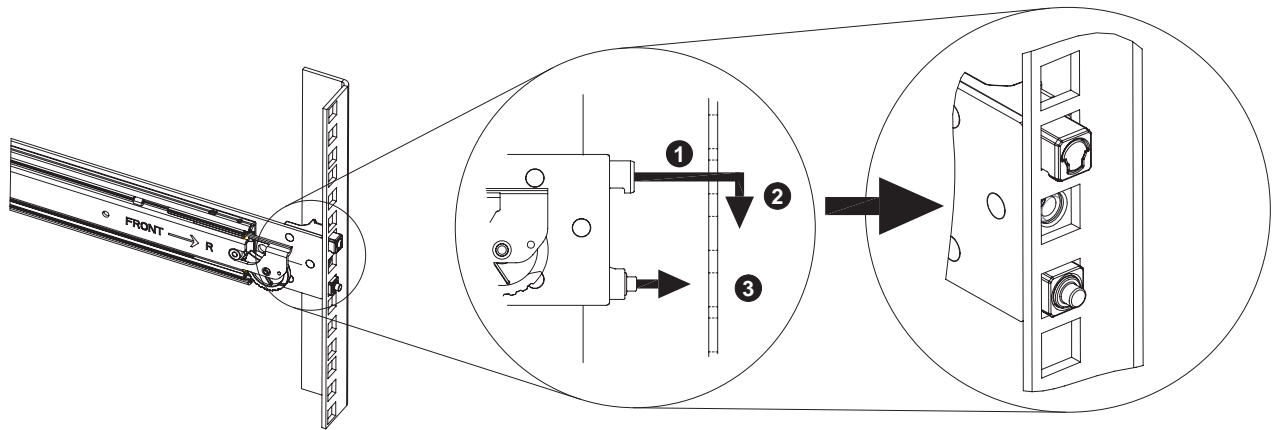

Figure 2-2 Attaching ISS3124-RP2 Rail Slides to the Rack
1. Attach the ISS3124-RP2 slide rails to the rack as shown in the example in Figure 2-2.